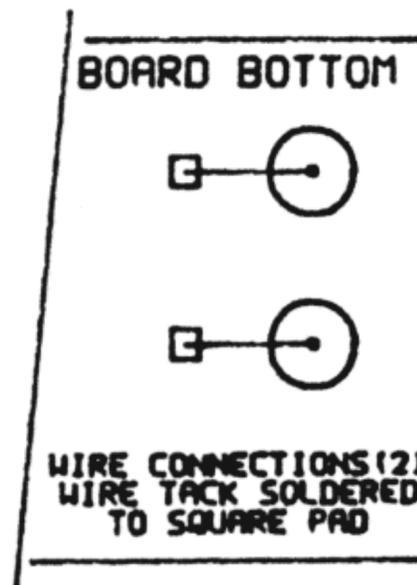

Figure 5: Component Placement
While the circuit could be constructed with any standard method (including point-to-point wiring), best results are obtained with a printed circuit board (PCB). Fabricate a printed circuit board using the patterns shown in Figures 3 and 4. When completed, mount the components on the PCB as shown in Figure 5 (clip off the excess resistor leads after soldering and save for jumpering as described below). Note that IC sockets are soldered to the PCB and the ICs inserted in the sockets in the orientation shown. U2 is a CMOS (Complimentary Metal Oxide Semiconductor) device and, as such, is sensitive to static field damage. Handle this IC as little as possible, preferably by the ends. Before handling, touch a ground point (such as the screw holding an electrical outlet cover) to drain any excess charge present on your body. Solder the eleven leads on the 22 pin connector to the component side of the PCB. Turn the PCB over and bend the remaining eleven pins down to touch the eleven PC leads below them and solder to the PCB.
Note the three holes marked "J" in Figure 5. For each hole, place an excess resistor leads in the hole. Solder the lead to the pad on each side of the PCB. Clip off the excess lead.
Mount the two binding posts on the PCB as shown in Figure 5. For each hole, place an excess resistor leads in the hole. Solder the lead to the pad on each side of the PCB. Clip off the excess lead.
Mount the two binding posts on the PCB as shown in Figure 5. Melt a small amount of solder onto each of the two rectangular pads on the PCB. Place the end of a short length of wire onto one of the pads and reheat the solder, connecting the wire to the pad. Attach the other end of the wire to the binding post. Repeat this procedure with another short length of wire, connecting the remaining binding post to the other rectangular pad.
Replace U1 and U2, being sure to observe the orientation shown in Figure 5. Reinstall the meter, power up the computer and load the cap program. Edit line 110 to add the statements :PRINT X:STOP at the end of the line. With no capacitor connected, select the low range. A number will appear along with the message "BREAK IN 110". Note this number as F(0). Repeat this procedure, this time selecting the high range and noting the resulting number as F(1). Change the values of F(0) and F(1) to the values you just noted. Delete the :PRINT:STOP statements you added to line 110 and resave the program.